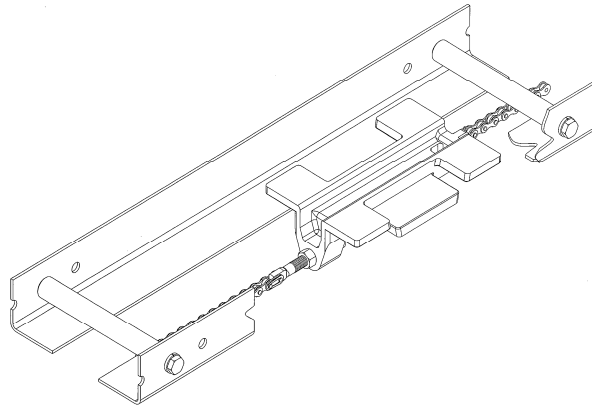

Figure 6 Installing chain
4. Attach one end of the chain to the carriage using a chain link (Figure 6). Run chain around front idler and continue around drive sprocket on operator. Then fix second end of the chain using another chain link to the take-up bolt and fix the take-up bolt to the carriage. Chain could then be tightened by adjusting the take-up bolts in carriage. Properly adjusted chain should sag approximately 2" (5 cm) at halfway point on tracks